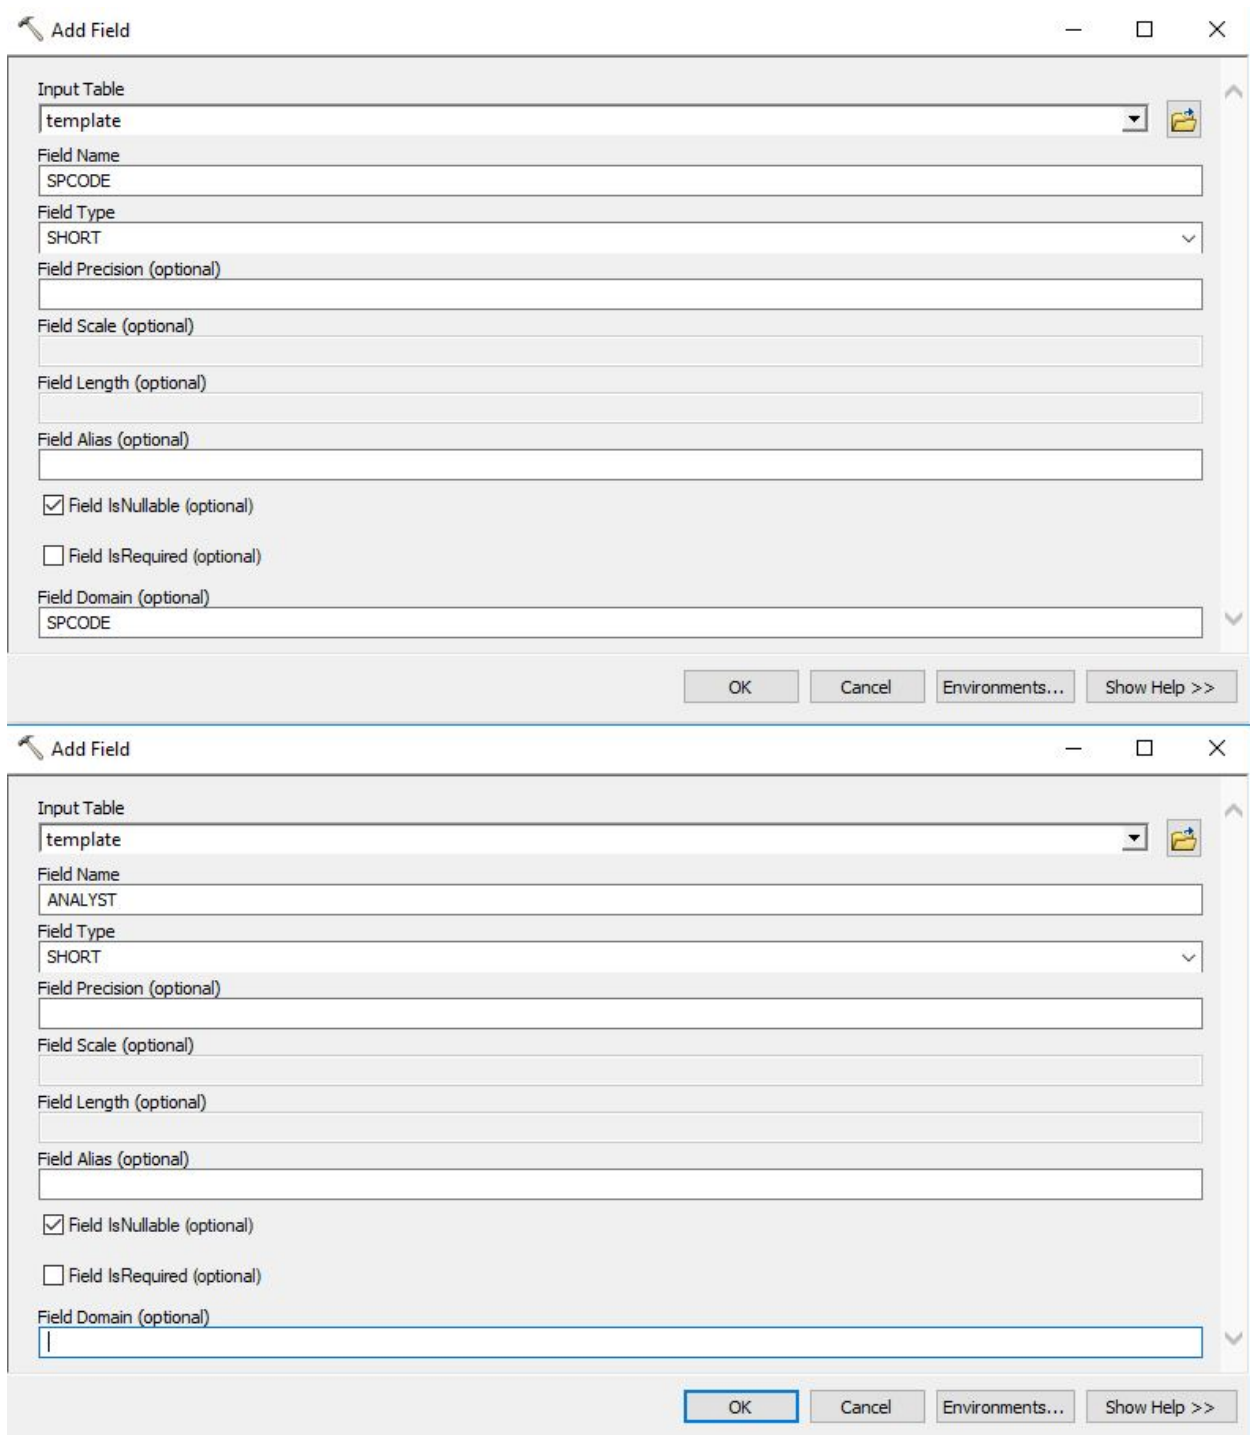

Figure 34. Screenshots of the Add Field tool in ArcMap.
8. Add appropriate fields to the template polyline feature class and apply domain if applicable (these will be your drop down menus) using 'Add Field' (Data Management) tool (Figure 34).